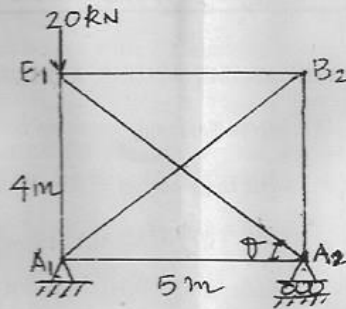

Fig. Q 11(a)
11. (a) Compute the forces in the members of a pin-jointed plane frame shown in Fig. Q 11(a) by flexibility matrix method. The flexibility for each member is 0.03 mm/kN.